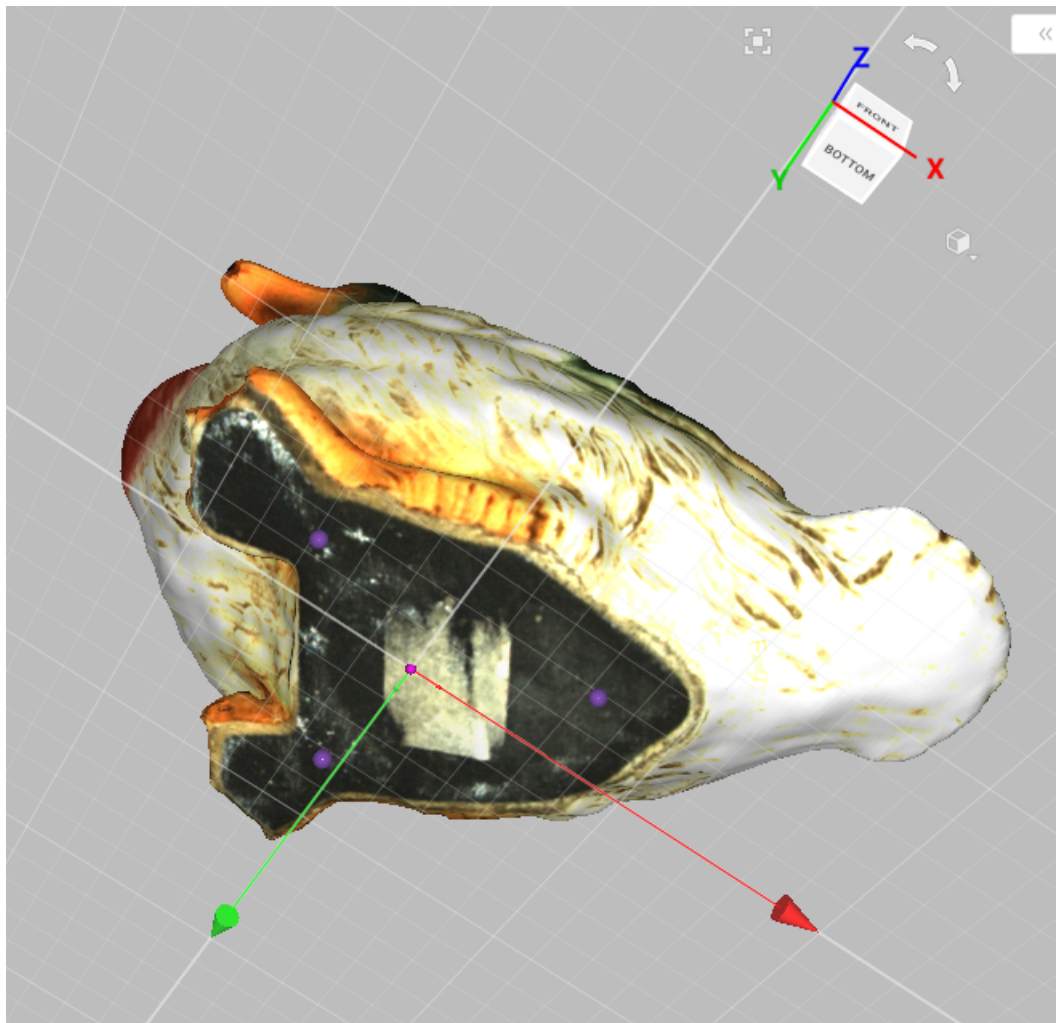

Figure 169: Positioning the model in the global coordinate system.
5. Use \mathbb{LMB} to specify at least three points on the surface; the plane will automatically pass through their center of mass (see Figure 169). The following conditions will then apply: